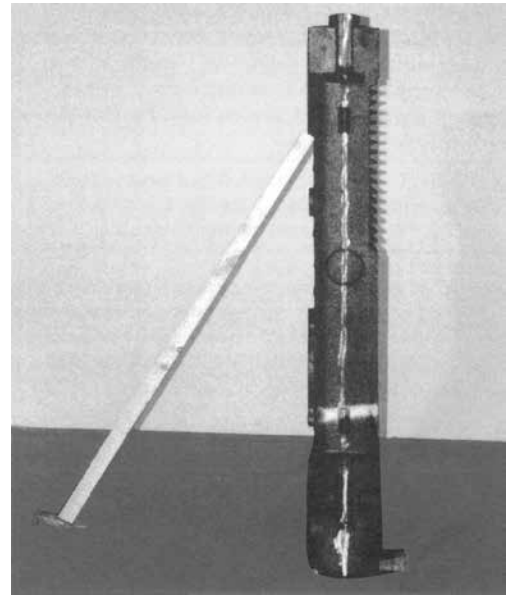

Figure 5: Positioning of Back Section
- a. Place the rear section in its approximate final position, as outlined in Section I, and support it with a suitable prop and wedges. See Figure 5.
- e. While the adhesive is becoming tacky, clean nipples and nipple ports thoroughly with a de-greasing solvent. Use the Loctite #592 provided to lubricate the nipples and nipple ports. Apply the lubricant to the nipples and nipple ports, then use a brush to disperse it evenly around the nipples and the nipple ports. Use approximately 25 ml of Loctite #592 per flueway [(1) 7" and (2) 3" nipples and their (6) corresponding nipple ports].